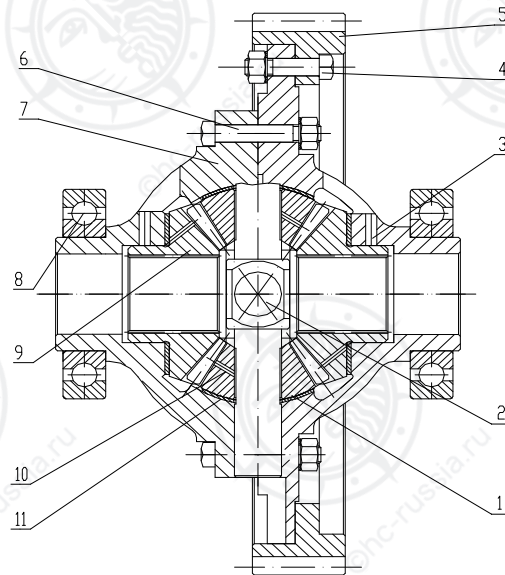

Fig.4-11 2.0t-3.8t Differential assembly structure drawing
2.0t-3.8t differential assembly structure refers to fig.4-11, and is supported on the gearbox housing through ball bearing 8 on both ends. Differential assembly installs with two half axle gears 9 and four planetary gears 10, planetary gear is supported by cross gear shaft 2, and cross gear shaft 2 is fixed on the left and right differential carrier 3 and 7. Thrust washer 1, washer 11 are installed between differential carrier and planetary gear and half axle gear. Differential carrier is in right and left splits, left differential carrier 7 and right differential carrier 3 are connected through bolts 4, gear ring 5 is fixed on right differential carrier 3 by bolt 4.